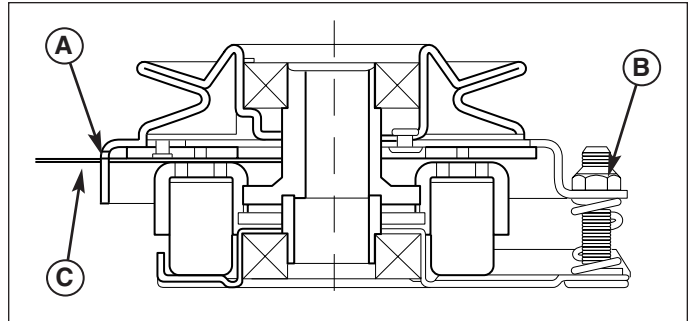

Figure 27. Adjust PTO Clutch
3. Insert a .016"-.018" (0.40-0.45mm) feeler gauge (C) through each window, positioning the gauge between the rotor face and the armature face as shown in Figure 27.